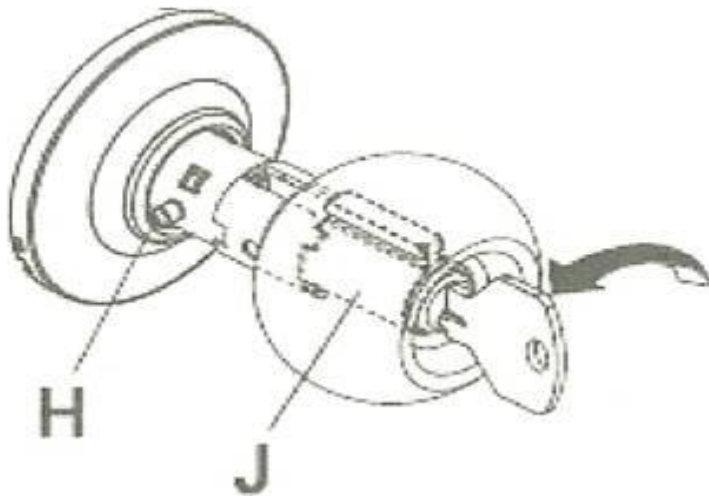

FIGURE 9-2
Install Hardware	<ol style="list-style-type: none"><li>5. Install lockset and strike plate per instructions.<ol style="list-style-type: none"><li>a. Be sure door latches easily but tightly with little rattle</li><li>b. If it rattles. Bend tab inside the strike plate with flat blade screwdriver</li></ol></li><li>6. Install the security deadbolt strike plate (not that provided with lockset).<ol style="list-style-type: none"><li>a. Set strike plate in place, predrill into Jack stud with 3/16” bit, secure with two large screws provided</li><li>b. Make sure deadbolt is installed so top of lever turns in the direction of bold travel. If it does not, remove deadbolt from door, rotate 180° and reinstall</li></ol></li><li>7. Install lockset per instructions and make sure lockset and deadbolt key direction is the same (notches up). See Fig. 9-2 (Reveres side). If not:<ol style="list-style-type: none"><li>a. Unlock the lock and insert the key half-way (do not insert completely)</li><li>b. Push in retainer pin (H) on neck of knob, pull knob just past the pin</li><li>c. Holding knob, rotate cylinder (J) to correct orientation</li><li>d. Push in pin and push knob back in place.</li></ol></li><li>8. Verify Lockset and deadbolt operation. Adjust as needed for easy operation, door closes snugly, latches with little effort, deadbolt engages/disengages easily and moves in same direction as top of lever (Fig. 9-2 next page)</li></ol>